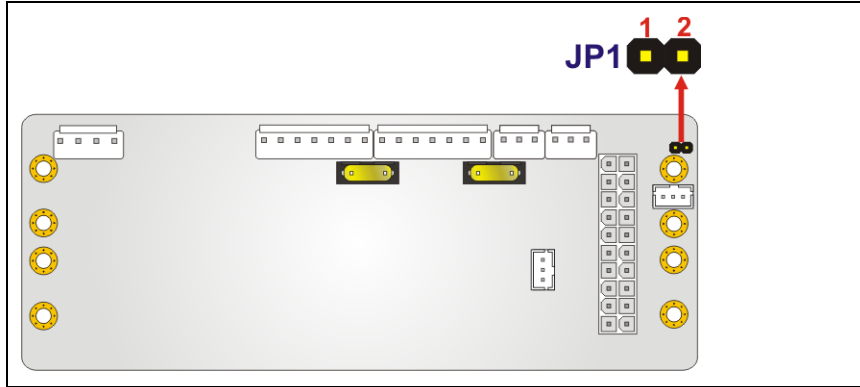

Figure 4-14: AT/ATX Mode Select Jumper Location
- CN Location:** See **Figure 4-14**